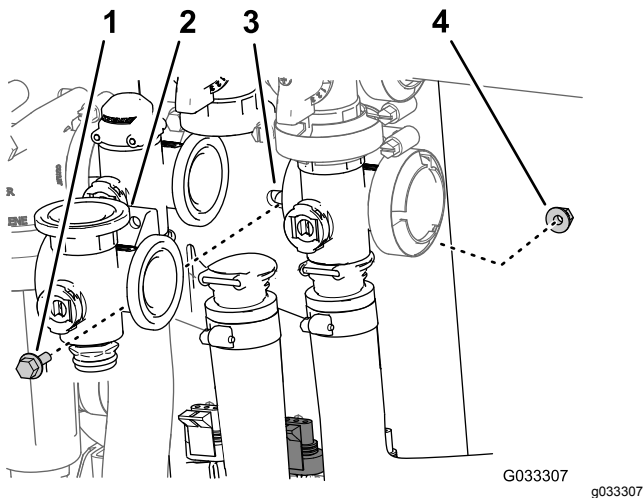

Figure 65
- Remove the flanged-head bolt and flanged locknut that secures the agitation valve to the valve mount and remove the valve manifold from the machine (Figure 65).